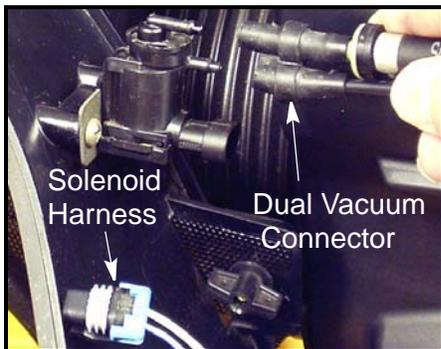

FIGURE 2
- Using a flat blade screw driver, carefully pry the dual vacuum line connector off of the solenoid. See Figure 2.